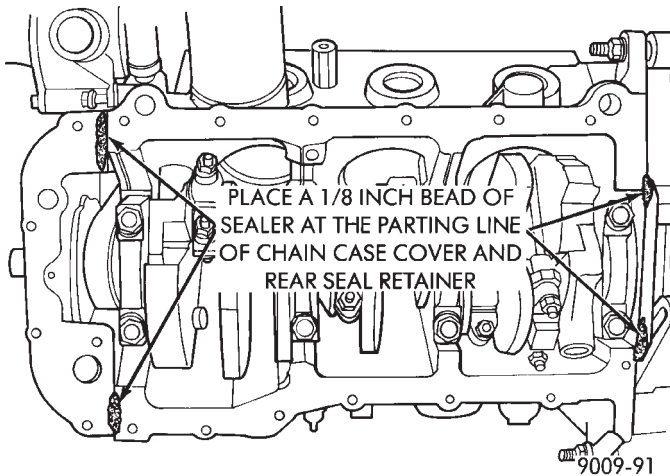

Fig. 3 Oil Pan Sealing
- (2) Apply a 1/8 inch bead of Mopar Silicone Rubber Adhesive Sealant or equivalent, at the parting line of the chain case cover and the rear seal retainer (Fig. 3).